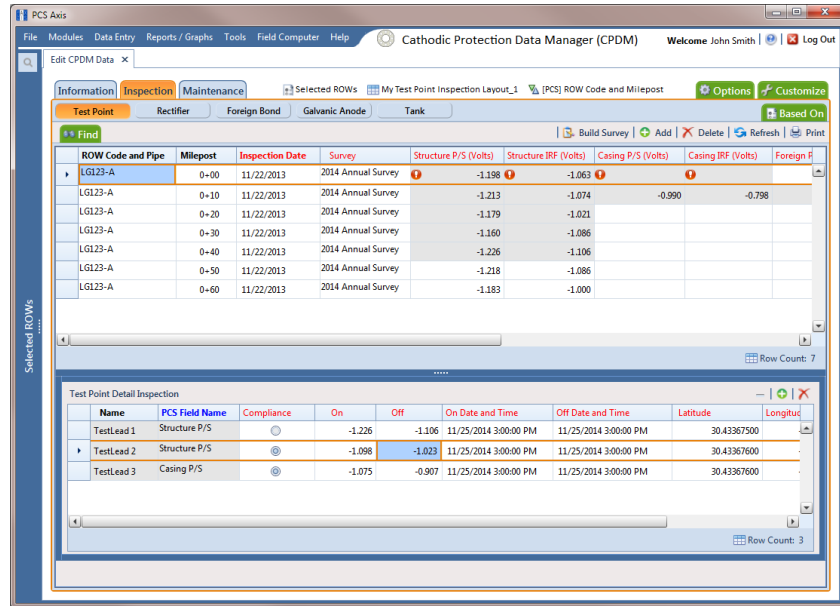

Figure 7-127. Test Point Detail Inspection Mini-Grid
- c Select a test point facility in the *Inspection* grid that includes subfacilities you want to add potential measurements (Figure 7-127).